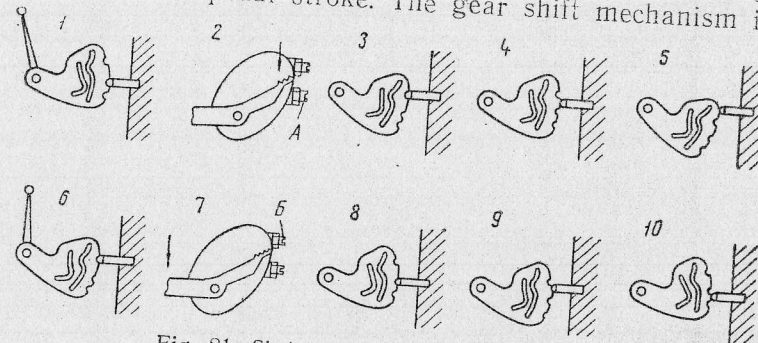

Fig. 21. Sketches of Gearbox Adjustments
1. Adjust the lower stop by turning the quadrant with the gear change hand lever in the II gear, making the lock settle in respective flute of the quadrant (position 1 in Fig. 21).